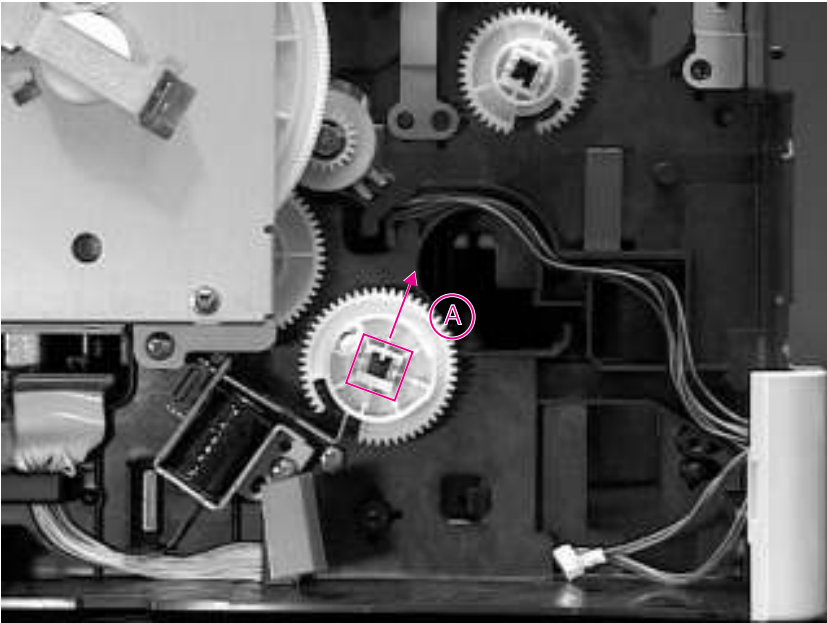

Figure 6-44 Reassembly of Tray 2 Shaft
- 4 Facing the left side of the printer, orient the shaft so that the open end points away from the solenoid. See Figure 6-44.